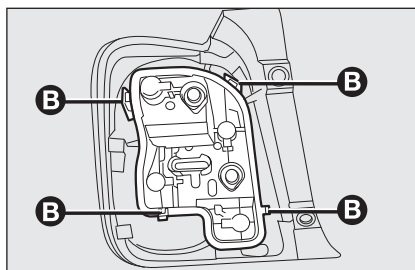

fig. 27
- extract the bulb holder from its seat releasing it from the locking clips **B-fig. 27**;